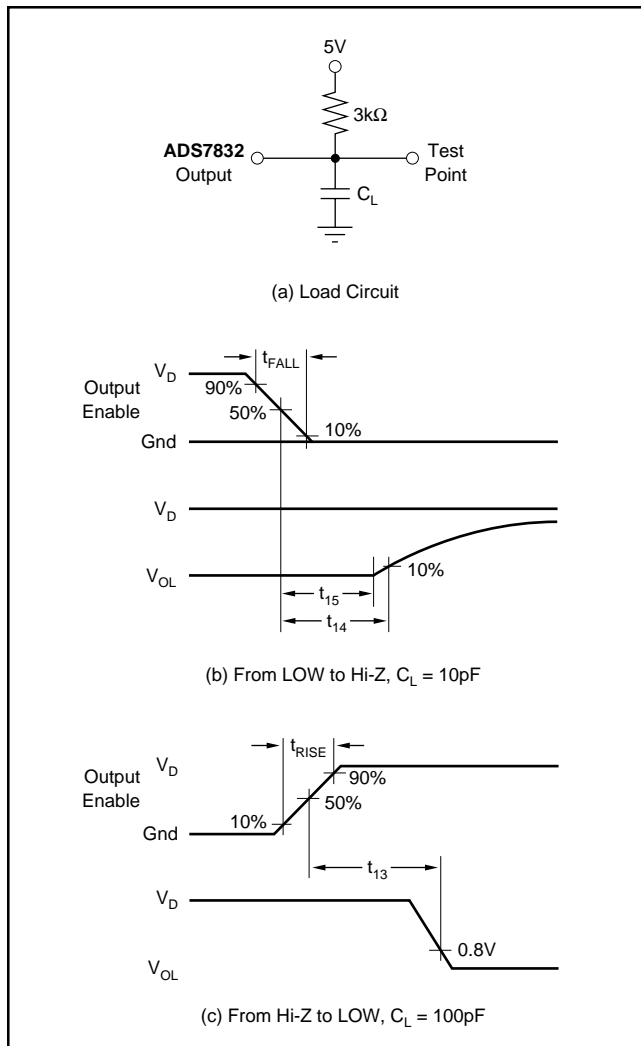

FIGURE 8. Measuring Active LOW to/from Hi-Z State.
NOTES: (1) All input control signals are specified with  $t_{\text{RISE}} = t_{\text{FALL}} = 20\text{ns}$  (10% to 90% of 5V) and timed from a voltage level of 1.6V. Data is timed from  $V_{\text{IH}}$ ,  $V_{\text{IL}}$ ,  $V_{\text{OH}}$  or  $V_{\text{OL}}$ . (2) The internal  $\overline{\text{RD}}$  pulse is performed by a NOR wiring of  $\overline{\text{CS}}$  and  $\overline{\text{RD}}$ . The internal  $\overline{\text{WR}}$  pulse is performed by a NOR wiring of  $\overline{\text{CS}}$  and  $\overline{\text{WR}}$ . (3) Figures 8 and 9 show the measurement circuits and pulse diagrams for testing transitions to and from Hi-Z states.